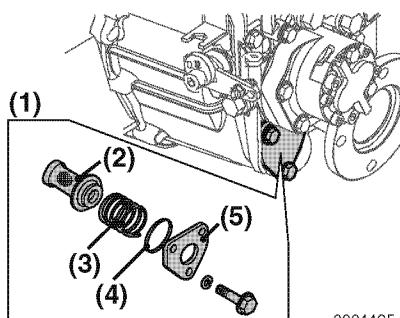

Figure 3
- (a) Remove side cover (Figure 3, (5)) and remove the filter (Figure 3, (2)).
- (c) Hold the filter in place with the coil spring (Figure 3, (3)) and insert into the case. Install a new O-ring (Figure 3, (4)) in the side cover.